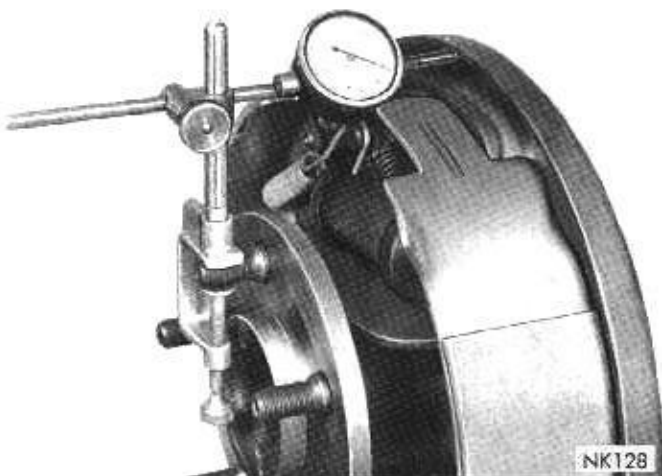

Fig. 13—Measuring Axle Shaft End Play
(1) Using a dial indicator mounted on the left brake support (Fig. 13), TURN THE ADJUSTER CLOCKWISE UNTIL BOTH WHEEL BEARINGS ARE SEATED AND THERE IS ZERO END PLAY IN THE AXLE SHAFTS. BACK OFF THE ADJUSTER COUNTERCLOCKWISE APPROXIMATELY FOUR NOTCHES TO ESTABLISH AN AXLE SHAFT END PLAY OF .008-.012 INCH.